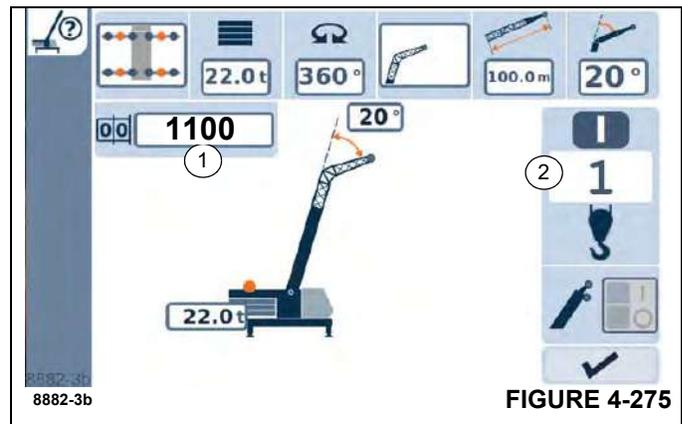

FIGURE 4-275
Display (1), (Figure 4-275) will show RCL code 1100 – the corresponding rigging mode will be displayed.
The display (2), (Figure 4-275) shows the last reeving entered, e.g. 1.